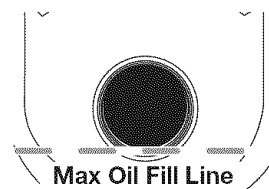

Fig. 19
5. Look into the oil fill hole, use a flashlight if needed. The oil should be just touching the inner most thread (Fig. 19).
6. If the oil level is not touching the inner most thread on the oil fill hole, add a small amount of oil to the oil fill hole and recheck (Fig. 19). Repeat this procedure until the oil level reaches the inner most thread on the oil fill hole.